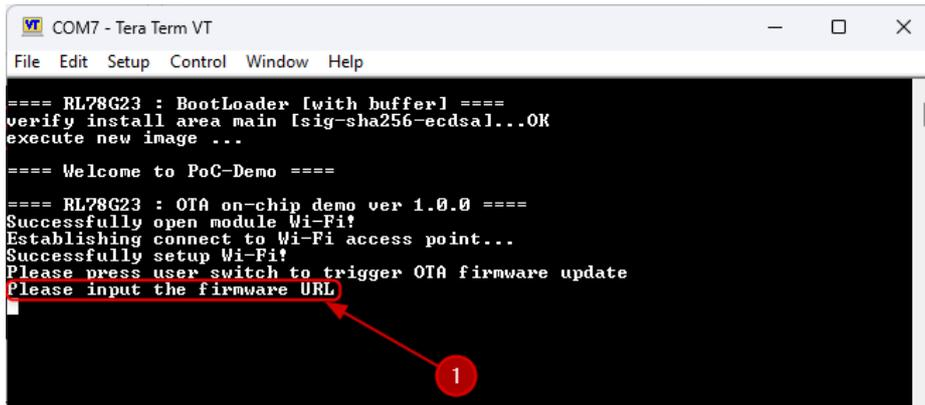

Figure 3.7 Wait for input firmware URL
1. Waiting for the network connection to be successfully established (see **Figure 3.7**).